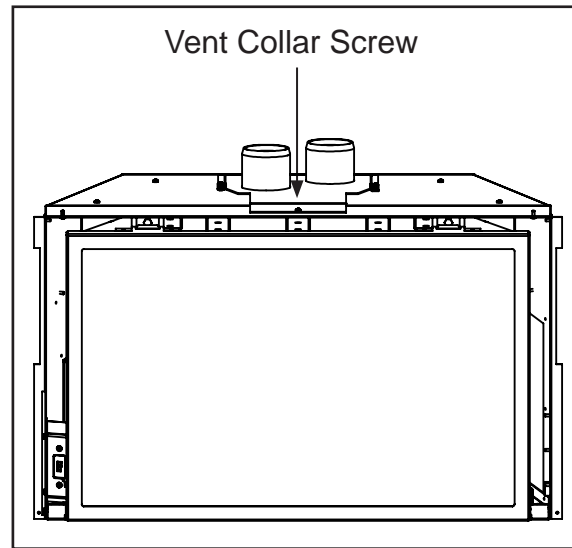

Figure 31: Vent Collar Plate Screw Location.
- Apply a bead of stove cement sealant to the Ø3" (76mm) pipe of the exhaust vent terminal. Slide the flex liner onto the vent terminal and secure with three (3) sheet metal screws evenly spaced.
- Place a bead of high temperature silicone on the intake collar of the vent terminal. Slide the Ø3" (76mm) flex intake liner over the collar, secure the flex liner with three (3) sheet metal screws evenly spaced. Secure the vent terminal to the chimney using adequate sealant, and according to local building codes.
- If the fireplace opening is lower than 24" (610 mm), remove the vent collar plate from the top of the insert by unscrewing the 5/15" screw located on the center top of the stove above the door opening (see Figure 31). Slide the collar plate backwards. Properly secure the vent collar plate to the flexible vent pipe liner(s) previously installed in the chimney. Be careful not to over-stretch the liner(s).
- Apply a bead of stove cement sealant to the top section of the Ø3" (76mm) exhaust vent collar plate. Slide the Ø3" (76mm) flex vent over the flue collar and secure with three (3) sheet metal screws evenly spaced.
12. Place a bead of high temperature silicone on the intake collar of the fireplace, slide the Ø3" (76mm) flex intake liner over the collar, secure the flex liner with three (3) sheet metal screws evenly spaced.
15. Adjust the levelling legs to ensure the unit is level and high enough if a base shelf and/or riser is to be installed. There are four levelling legs on the bottom of the unit (shown in Figure 31).